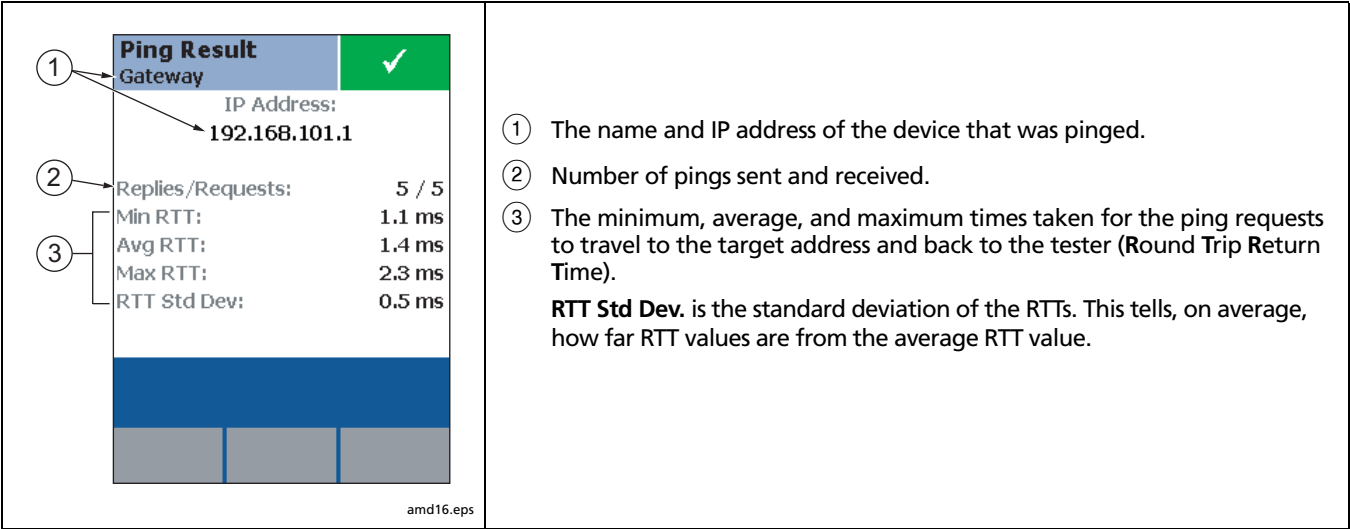

Figure 10-6. Ping Results Screen
- ⑤ Select **DTX Address** to see details, including the subnet mask.
- ⑥ Network addresses used during the test:
- To see ping results for the above devices, highlight a device; then press **(ENTER)**. See Figure 10-6.
- 7 To see ping details (Figure 10-6), highlight a device; then press **ENTER**.